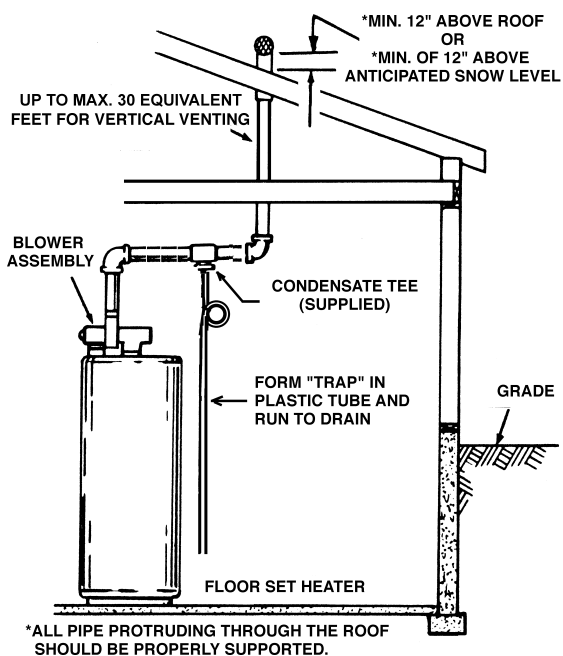

FIGURE 9
One method to catch the condensate before it can run back to the fan is to install a "TEE" mounted upside down and capped, just past the first elbow, (Fig.9) of the vent pipe system. This set-up will require the installation of a small (1/4-3/8 inch) plastic tube, with the proper trap, to drain the condensate to a floor drain.
If condensate "TEE" is being installed to keep condensate from running back to the blower, be sure to form trap in plastic drain tube and run the condensate to a drain. See Figure 9.
This unit is approved for venting through the roof with only the vent terminal that is included with the unit, see Figure 9. A proper flashing or "BOOT" should be used to seal the pipe where it exits the roof. The total vent system should not exceed the thirty (30) equivalent feet of 3 inch pipe or sixty (60) equivalent feet of 4 inch pipe as listed in Table 1.